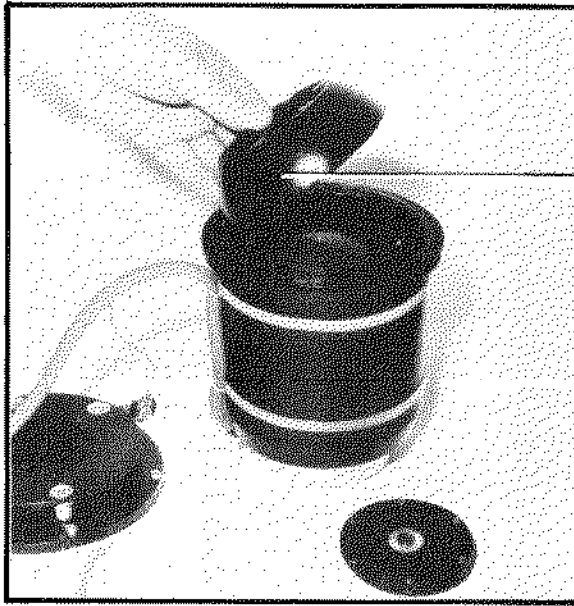

Fig. 3-15:
- Centrally place the inner shell onto the seat of the lower support bearing of the outer sphere (cf. Fig. 3-15).